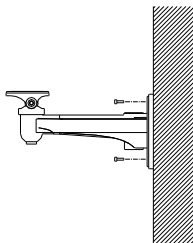

Figure 2-1 Fix the Wall Mount
1. Attach the wall mount to the wall, and use screws to fix it as shown in Figure 2-1.